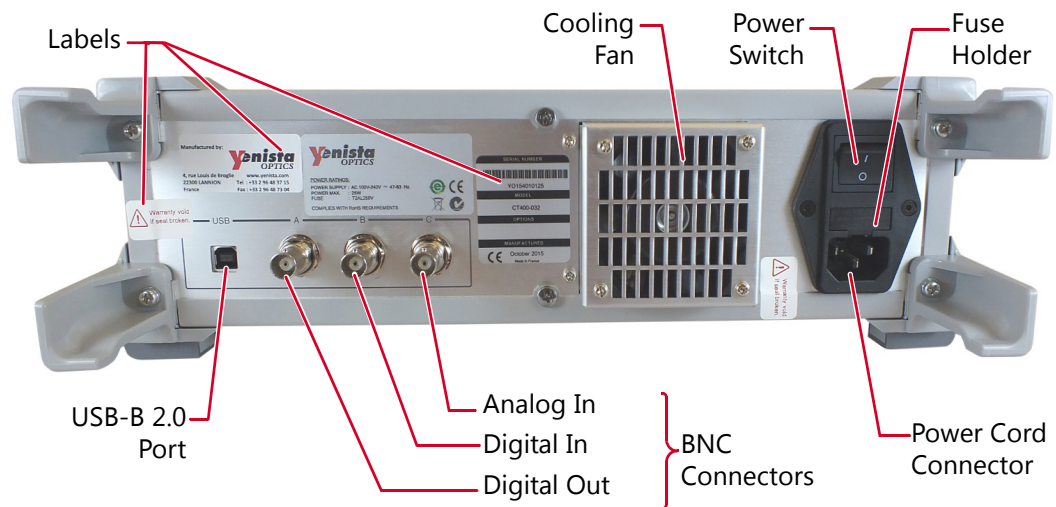

Figure 3: Rear Panel
4. On the rear panel (see *Figure 3*, p. 15), make sure the power switch is set to **O**.
1. On the rear panel (see *Figure 3, p. 15*), set the power switch to **1**.
2. On the rear panel (see *Figure 3, p. 15*), set the power switch to **0**.
2. Using the USB cable, connect the USB-A 2.0 port of your computer to the CT400 USB-B connector located on the rear panel (see *Figure 3*, p. 15).